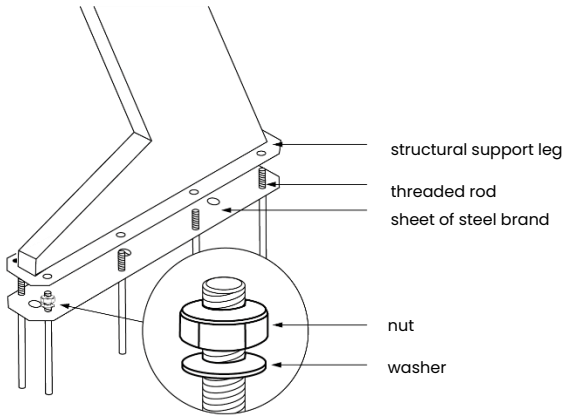

Fig. 6. Placement of washers and nuts for leveling if needed
5. Before proceeding with the further assembly, **check the spacing between the vertical supports** relative to each other and whether they are installed in a vertical position. In case of deviation from vertical, appropriate adjustments should be made (see Fig. 6).